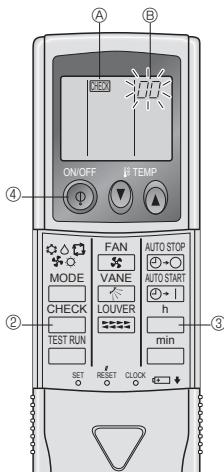

Fig. 7-4
7.3.2. Wireless remote controller (Fig. 7-4)
- ① Turn on the power.
- ② Press the **CHECK** button twice.